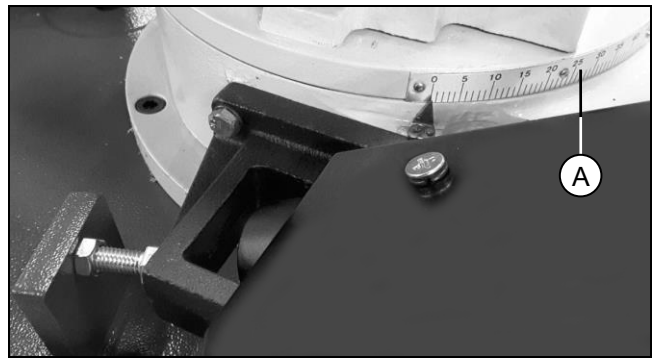

Fig. 10
2. Rotate the upper assembly along the miter scale (A, Fig.10) to desired cutting angle. This saw allows cutting angle from 0 to 45 degree, and has settings at 2 points (0 and 45 degree).